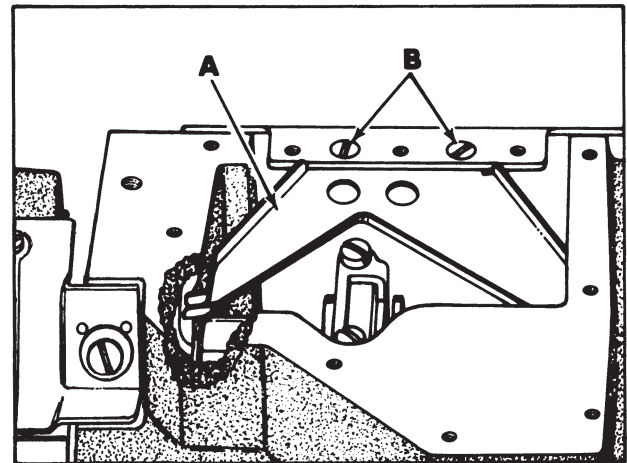

Fig 19
The oil drip plate (A, Fig. 19) located in the oil reservoir should be positioned with its tip in the recessed cut out in the bed casting, as far to the left as possible without touching. It has elongated mounting holes and can be adjusted by loosening (2) screws (B) in top of the oil reservoir back cover to position as required, retighten screws.